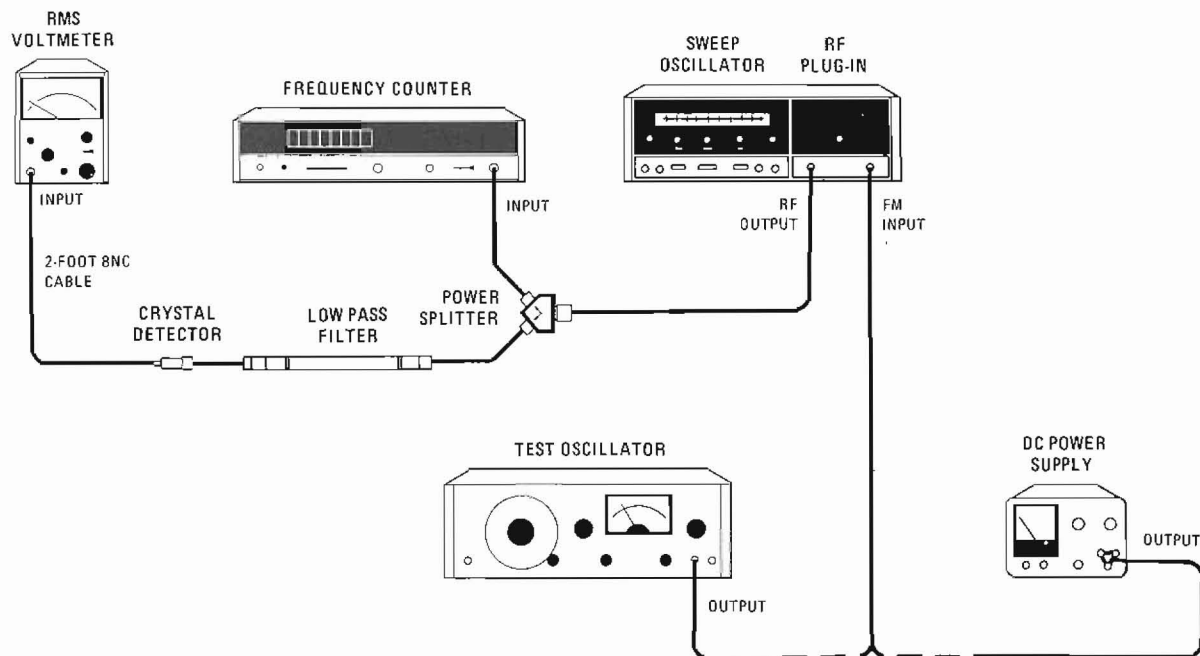

Figure 4-13. External FM Modulation Test Setup
- a. Connect equipment as shown in Figure 4-13. Press CW pushbutton.